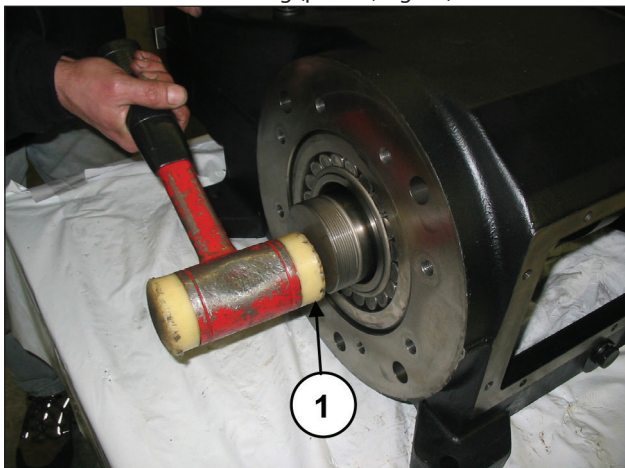

Fig. 29
Extract the bend shaft with the aid of an extractor hammer from the PTO side (pos. ①, Fig. 29).